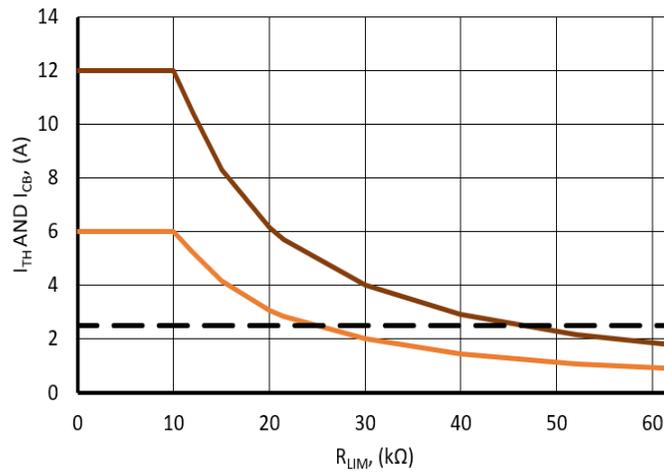

Figure 7. Current Trip Level Increasing R_{Lim} Resistance
- I_{TH} is a threshold current that, when reached or exceeded for longer than 1.5 ms, will turn off the eFuse channel. The value of I_{TH} is set by R_{Lim} and that relationship can be seen in Figure 7 below.
- I_{CB} is a threshold current that, when reached or exceeded will turn off the eFuse channel within 6 μ s. The value of I_{CB} is set by R_{Lim} and that relationship can be seen in Figure 7 above.